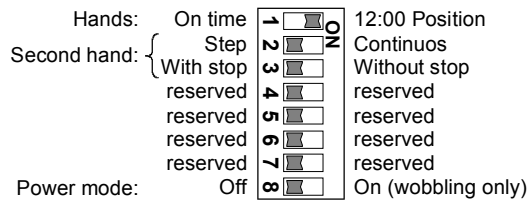

Fig. 5
- Set DIP switch 1 to **ON** position (12:00 Position, Fig. 5)
- If the 12 o'clock position of the clock is OK, reset DIP Switch 1 to **OFF** position (Fig. 5).